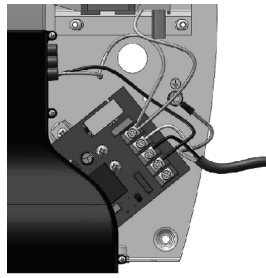

Fig. 5
- f. For 115-Volt Dryers, connect ground wire to ground terminal marked  $\oplus$ , the black or hot wire to terminal marked L1, and neutral or white wire to terminal marked N. A DEDICATED LINE IS REQUIRED FOR EACH 115-VOLT INSTALLATION. (See Fig. 5)
- g. For 208–240 Volt Dryers, connect ground wire to ground terminal marked  $\oplus$  and the 208–240 volt wires to terminal marked L1 and L2. (See Fig. 5)